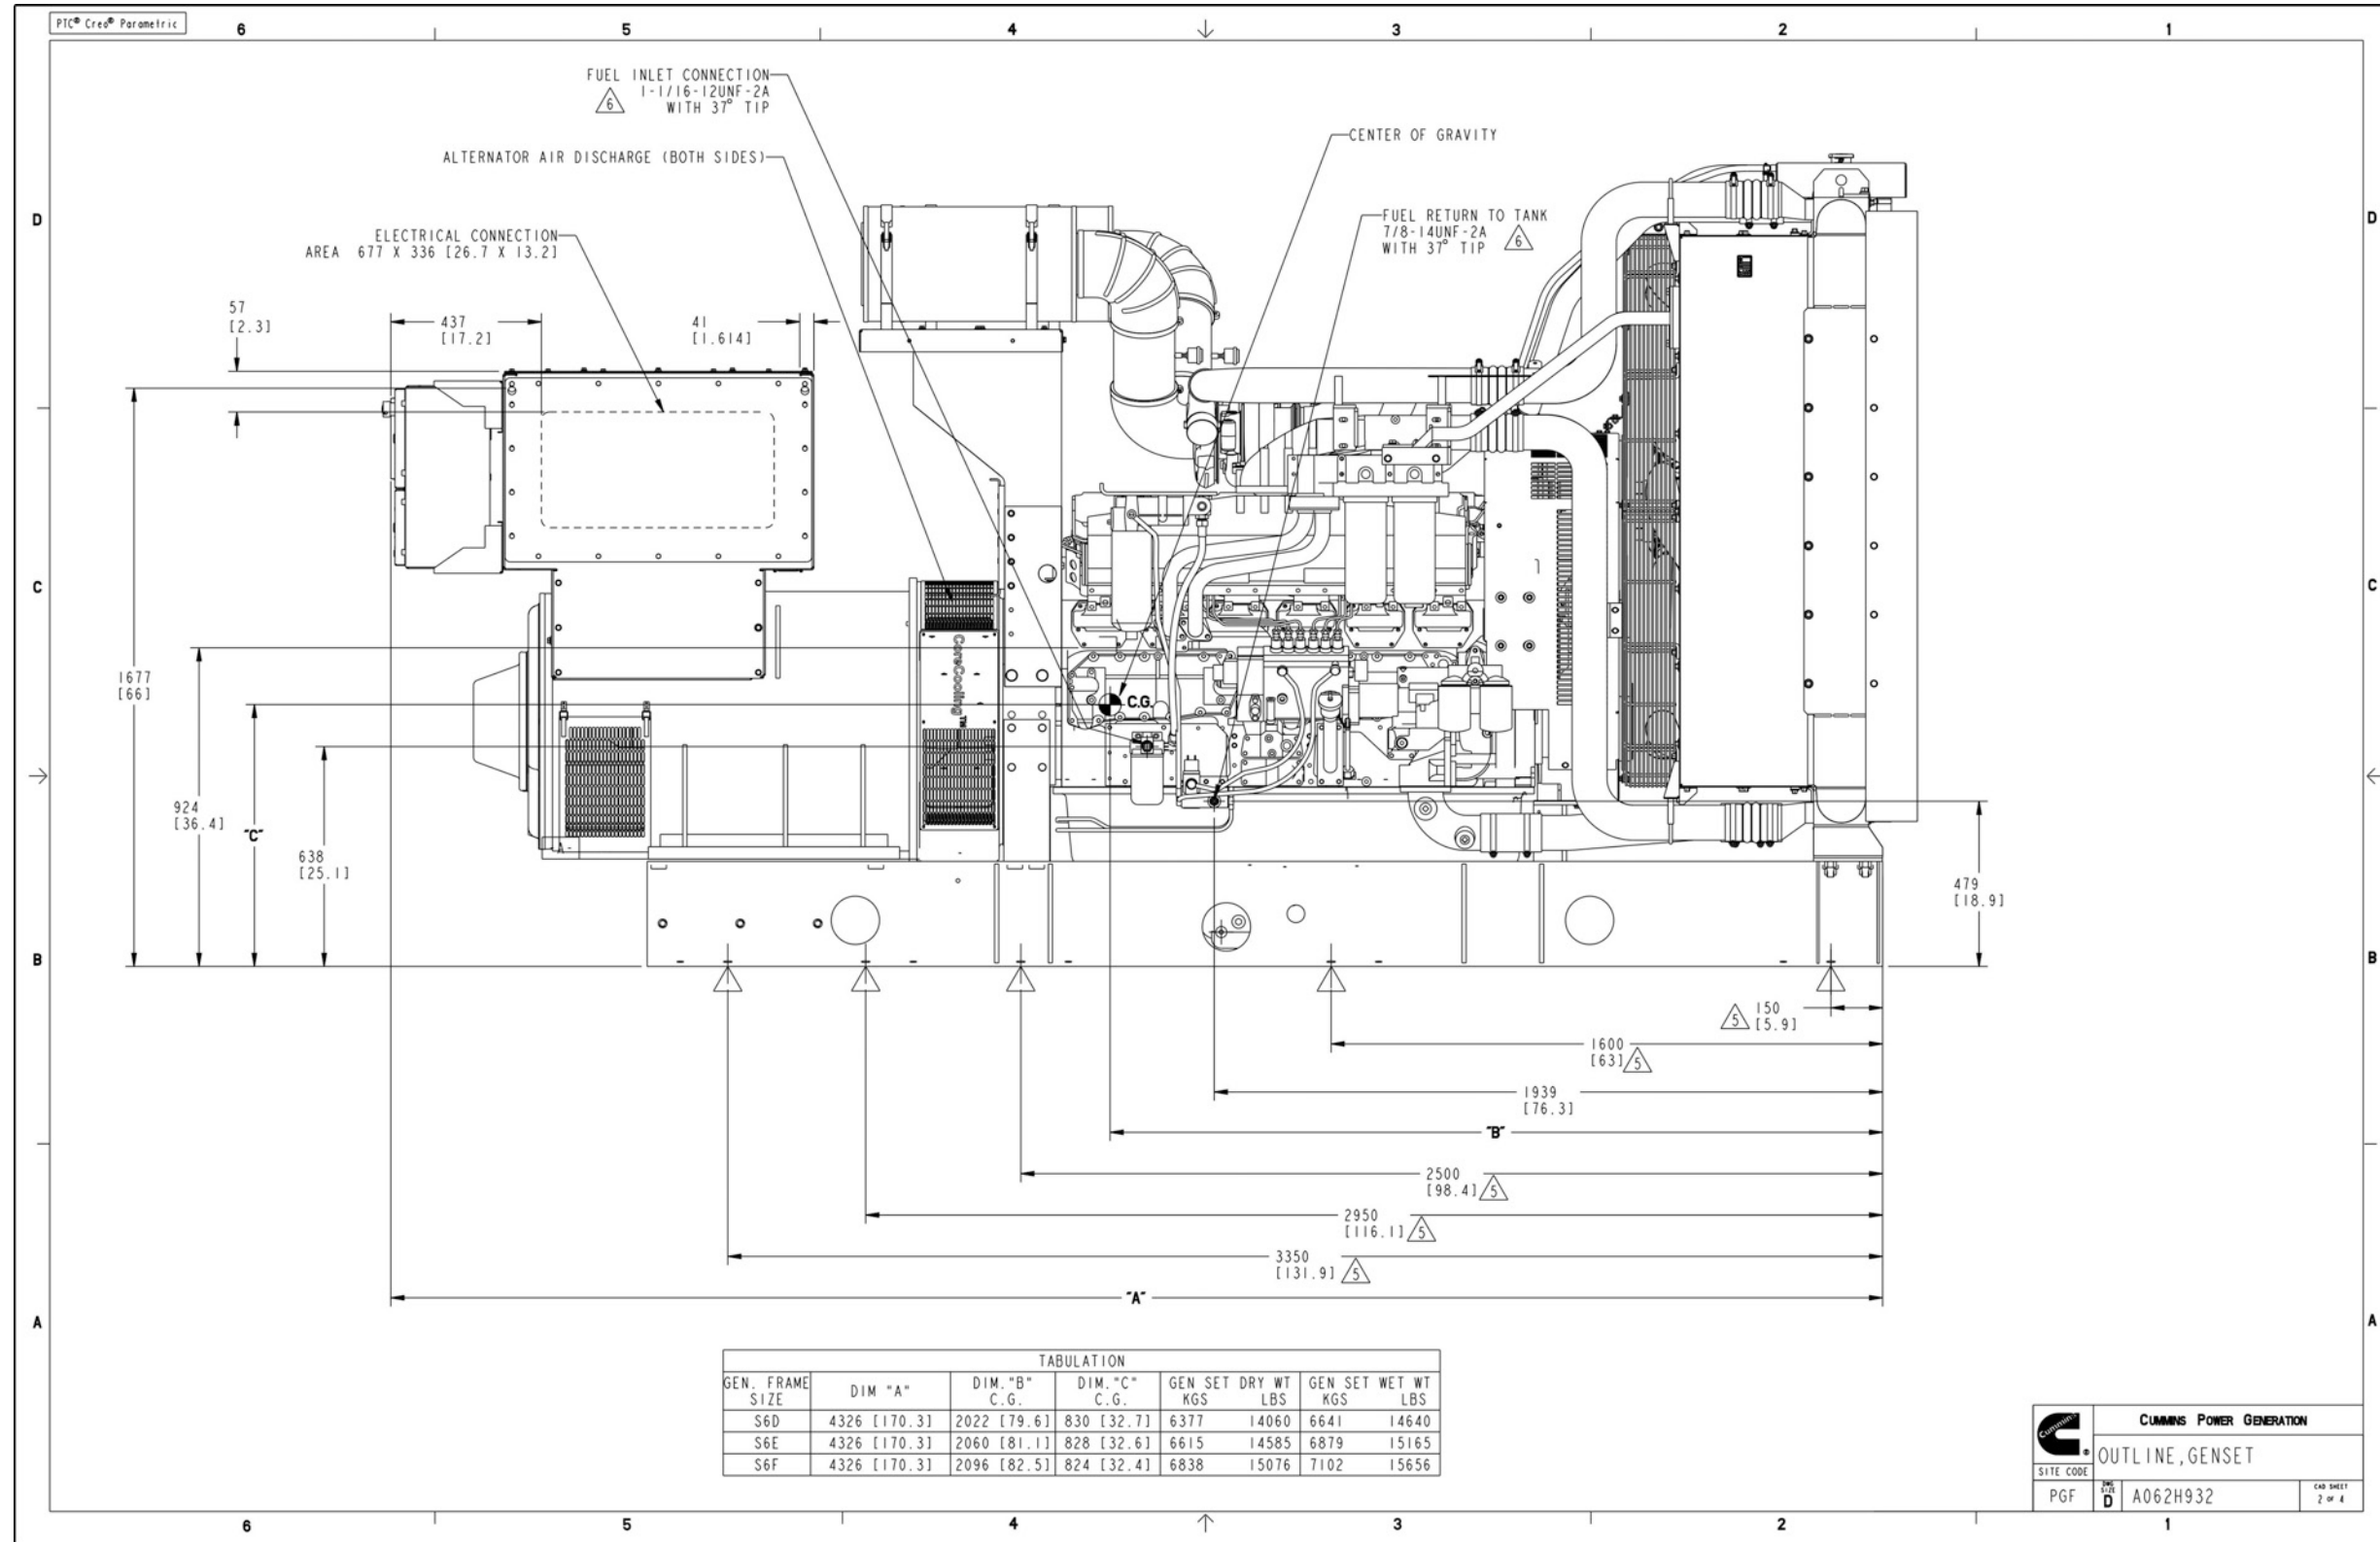

FIGURE 70. GENERATOR SET OUTLINE DRAWING (SET MOUNTED RADIATOR) (SHEET 2)
- Figure 70. Generator Set Outline Drawing (Set Mounted Radiator) (Sheet 2) 136